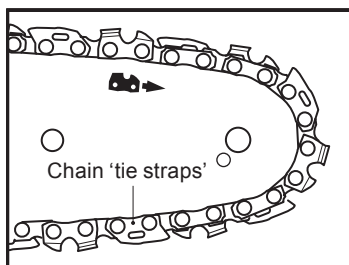

Fig. 11
1. Place the product on a suitable flat surface with the chain saw cover (22) facing forwards.
2. Check the chain tension using one hand to lift the saw chain (20) against the weight of the product. The correct chain tension is achieved when the saw chain can be lifted by approximately 2-4 mm from the guide bar (19) in the centre (Fig.11, 12).